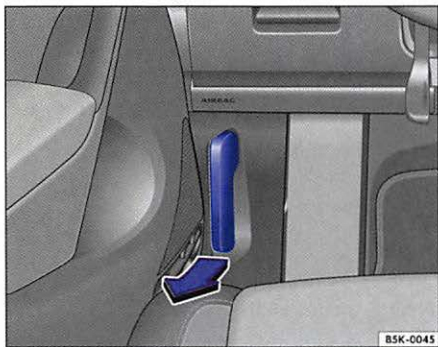

Fig. 149 Primary hood release lever in the footwell on the driver's side.
- Pull the primary hood release lever in the direction of the arrow $\Rightarrow$ fig. 149. The engine hood is released from its latch by a spring $\Rightarrow$ .